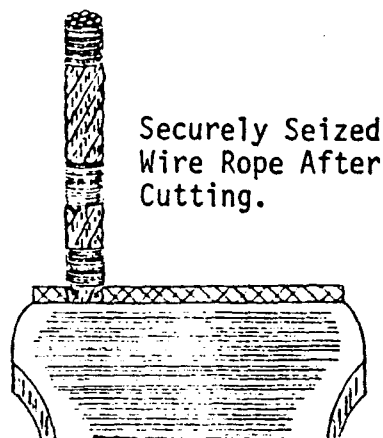

FIGURE 3-9
1. The wire rope must be securely seized before cutting, to prevent loss of lay when the rope is opened. This is to insure equal tension in the strands when a load is applied. Measure from the end of wire rope a length equal to the length of the basket of the socket. Make seizings with soft iron wire, located as shown in Figure 3-9. Use as many seizings as necessary to prevent the wire rope from unlaying.